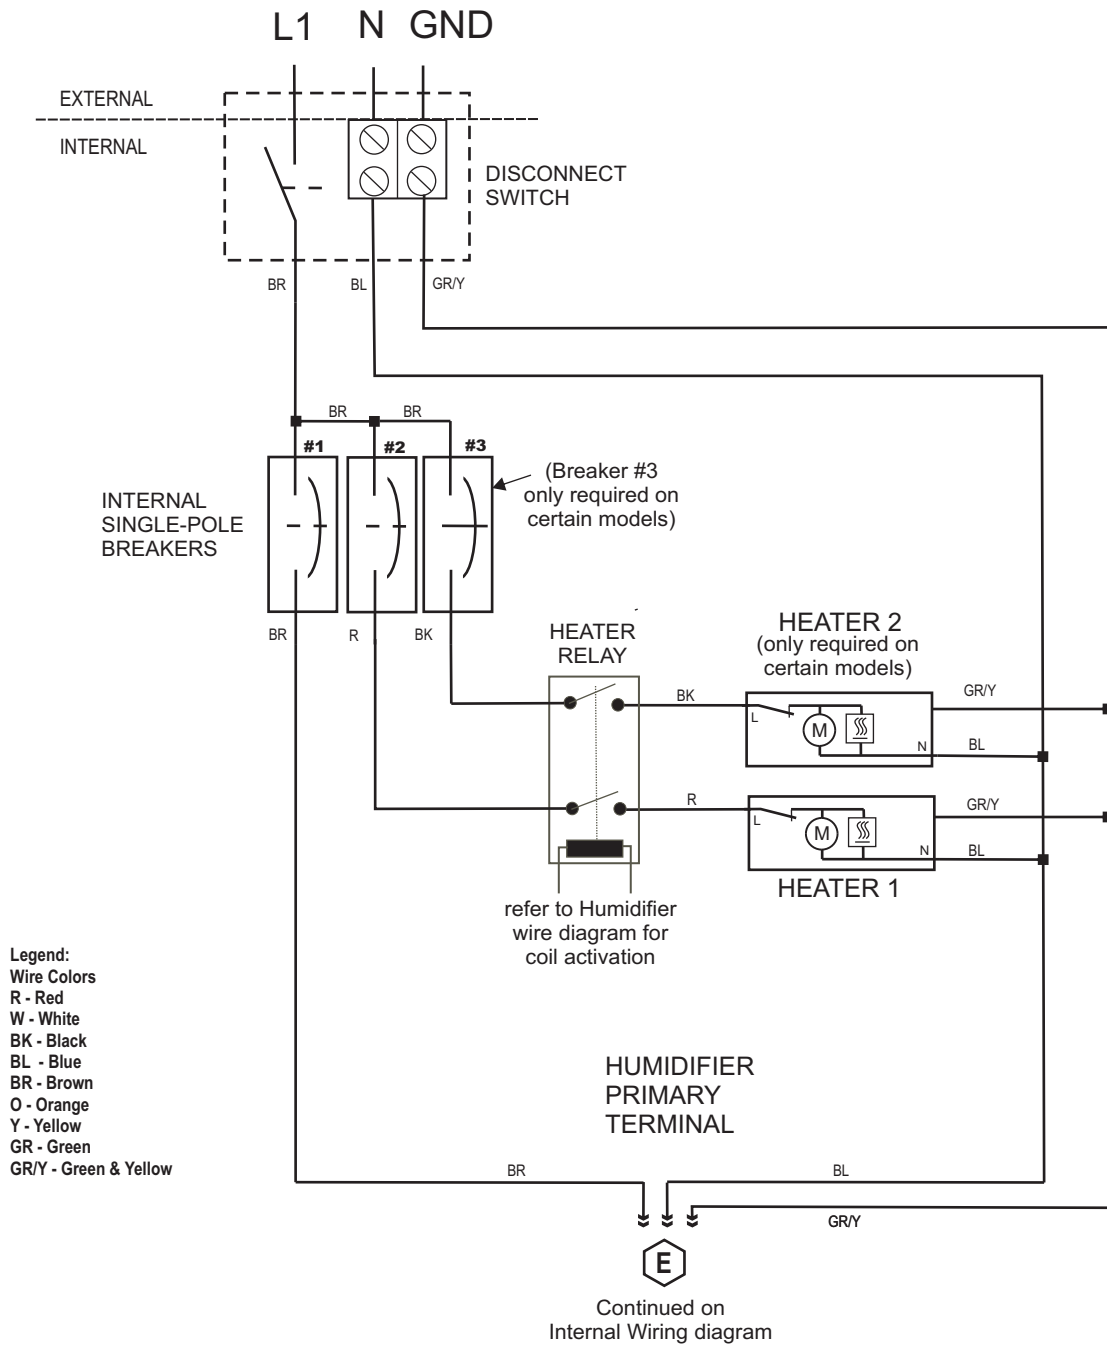
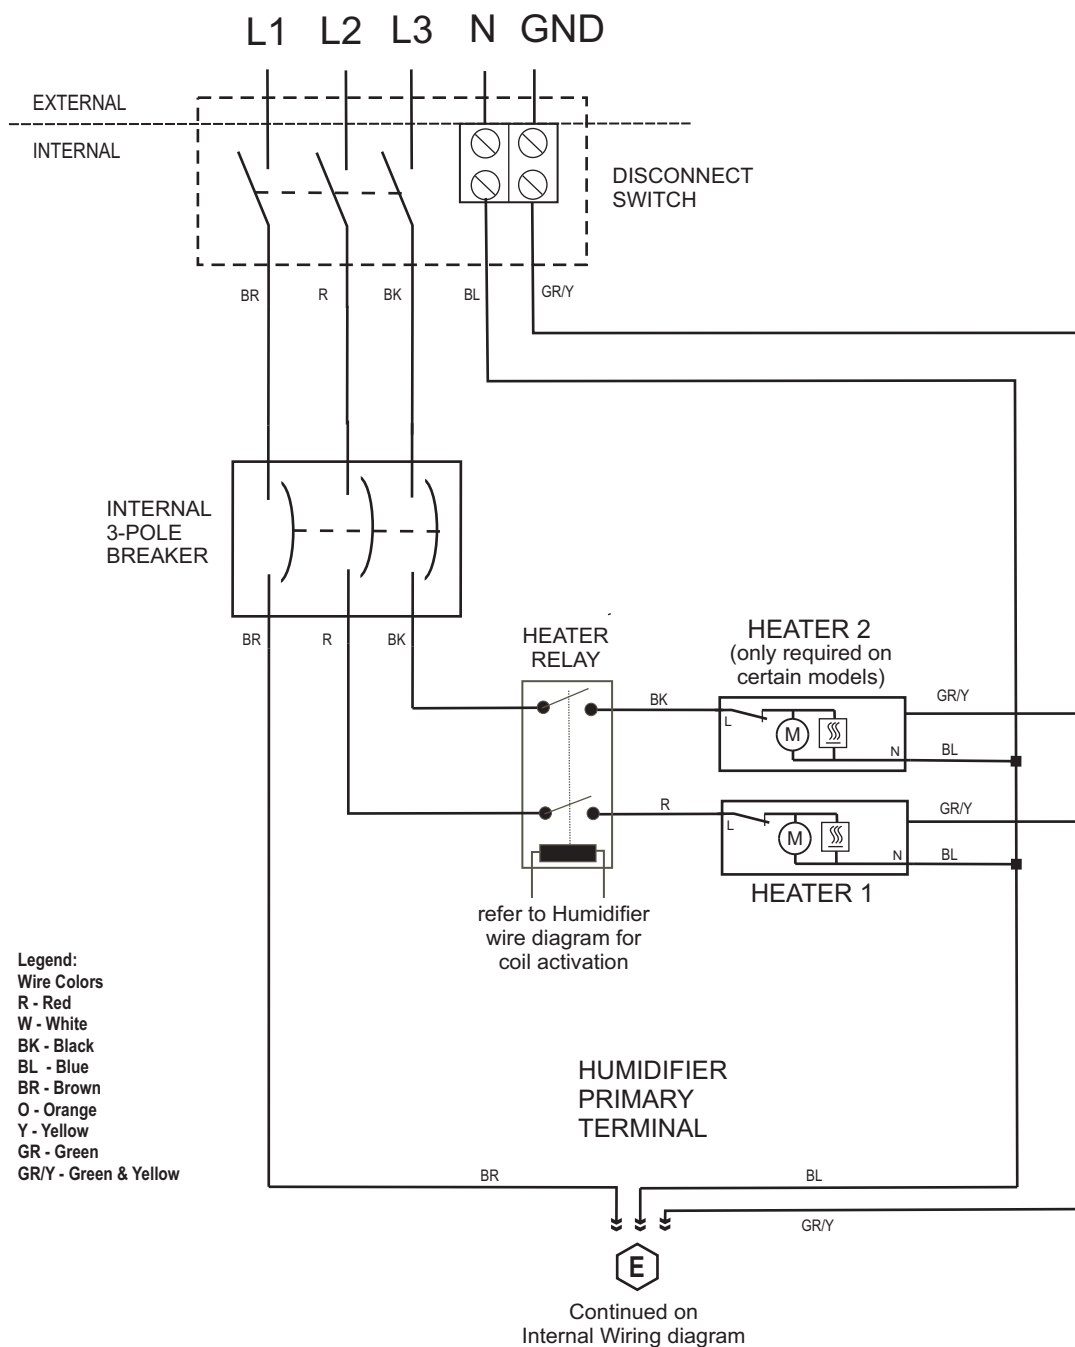

Fig. 16: Supplementary wiring diagram 120V/1ph Voltage Supply for Condair GS 50 OC - GS 600 OC (reference document 2604624, revision A)
Fig. 17: Supplementary wiring diagram 208V/3ph Voltage Supply for Condair GS 50 OC - GS 600 OC (reference document 2604625, revision A)
- Route the power cable via a cable gland into the electrical isolator and connect it to the corresponding terminals according to the appropriate wiring diagrams (see Fig. 16 on page 48 or Fig. 17 on page 49).
Fig. 16 shows the supplementary wiring diagram for the 120V/1ph voltage supply for the Condair GS 50 OC - GS 600 OC.
Fig. 17 shows the supplementary wiring diagram for the 208V/3ph voltage supply for the Condair GS 50 OC - GS 600 OC.
- ☐ Power supply connected via the electrical isolator on the humidifier according to the appropriate wiring diagram (see Fig. 16 on page 48 and Fig. 17 on page 49)?